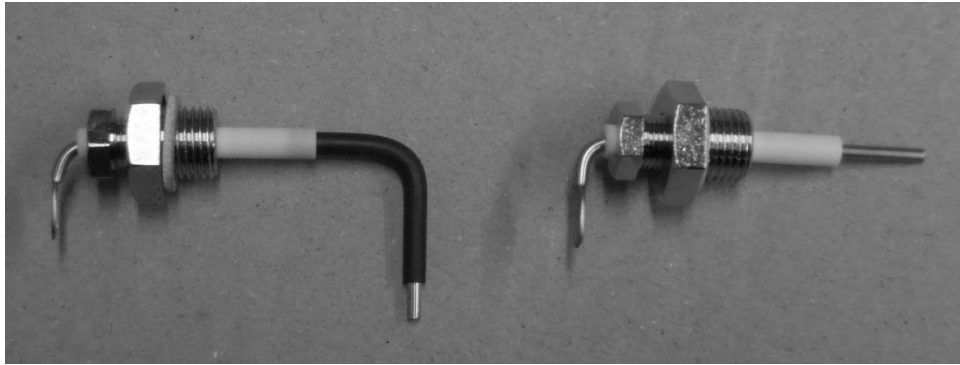

Figure 23. Showing operating level (left) and safety level (right) probes.
12. Clean the metal end of the probes with a well-used plastic scrub pad (see figure 23). Scale and dirt adheres better on a rough surface: try not to scratch the probes.